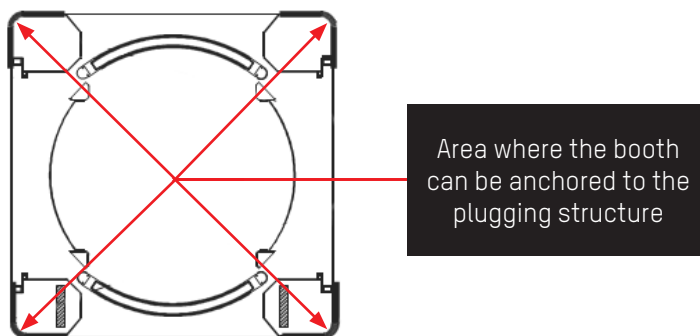

Fig. 20 - Side frames
2. Position yourself with the infixing to the anchoring area prechosen on the booth (⇒ Fig. 20).